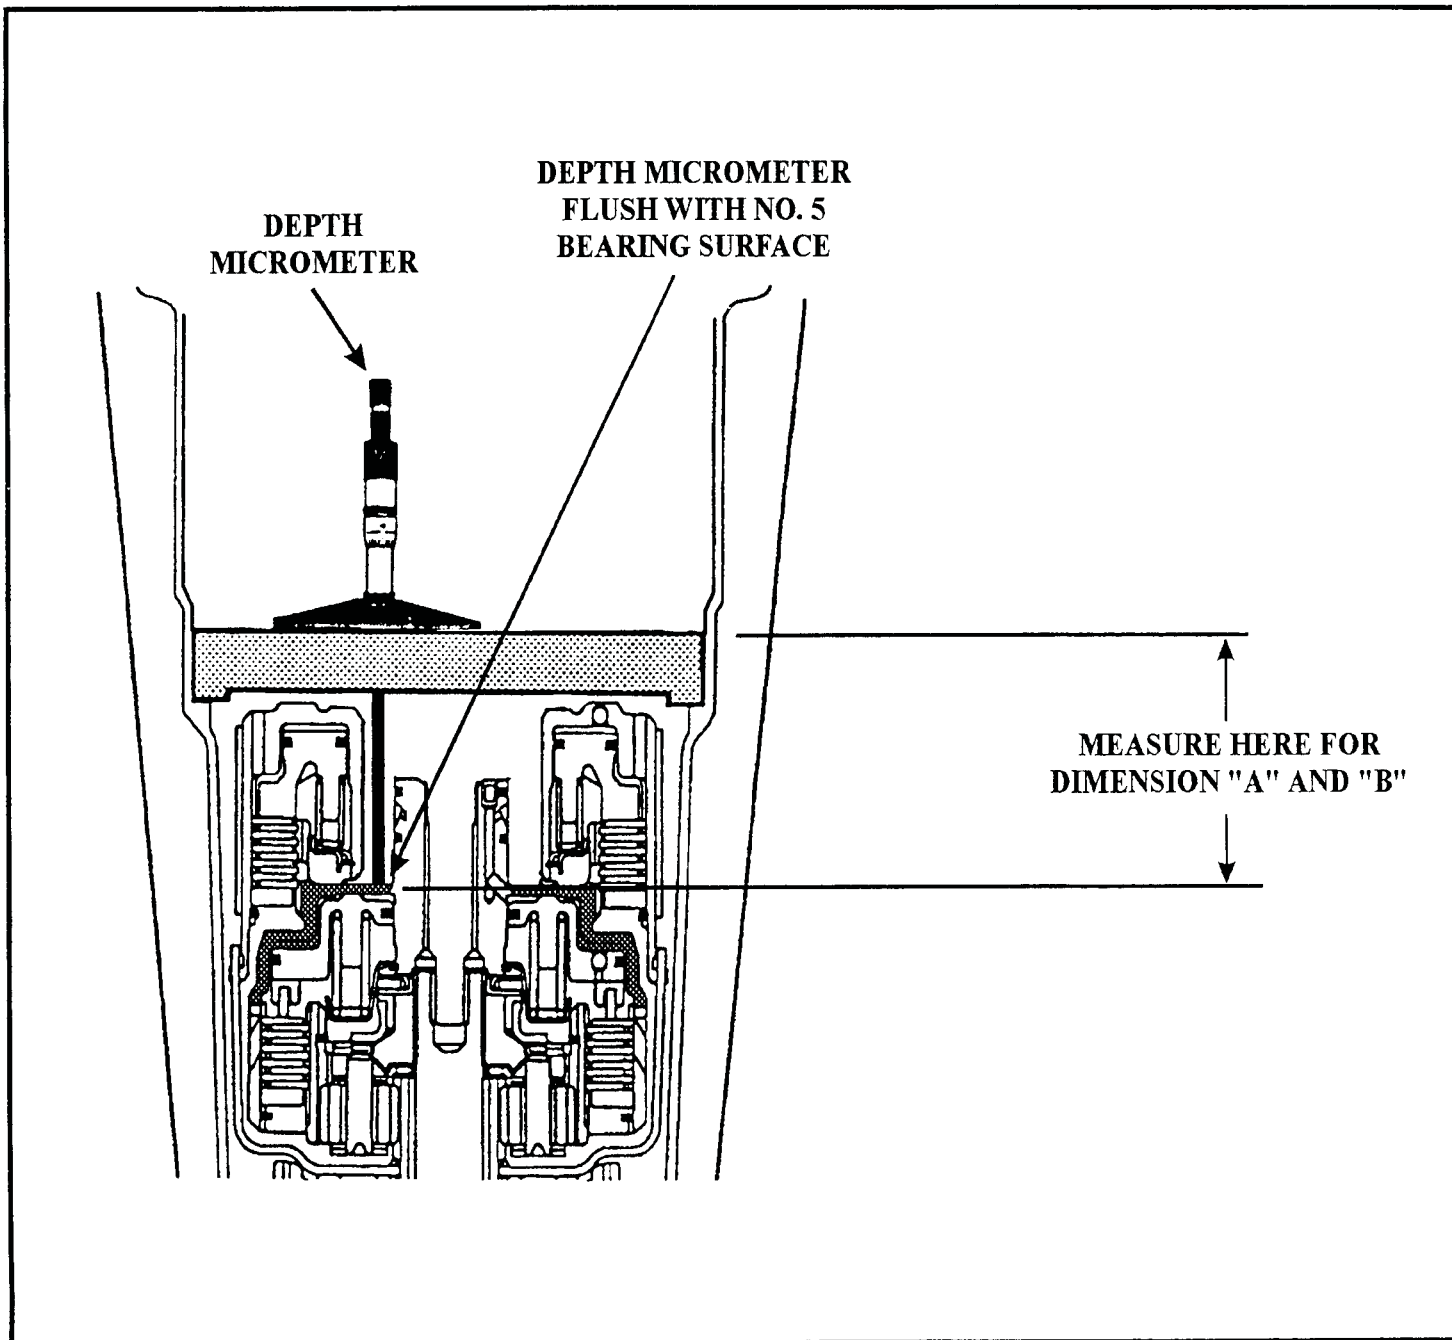

Figure 59
*The center support fixture used on previous models, will not work on "Snap" shell design models. To perform the rear endplay check on these models you **must** use a gauging bar (T93T-77003-AH), as shown in Figure 59, and using the following procedure:*
- (1) Place Gauging Bar (T93T-77003-AH) on case shoulder, as shown in Figure 59, and set the depth micrometer on top of gauging bar as shown in Figure 59.
- (2) Extend gauging bar probe until it contacts number 5 thrust bearing surface of the forward clutch drum, as shown in Figure 59. ***Number 5 (Selective) thrust bearing is removed for this check.***
- (3) Remove the depth micrometer and record this reading as Dimension "A".
- (4) Move the depth micrometer to the opposite side of the gauging bar (180 degrees). Extend gauging bar probe until it contacts number 5 thrust bearing surface of the forward clutch drum, as shown in Figure 59.
- (5) Remove the depth micrometer and record this reading as Dimension "B".
- (6) Add Dimension "A" and "B" together, and divide by 2, to determine an average reading. Subtract the thickness of Gauging Bar (T93T-77003-AH) which is 0.700" (17.78mm). ***This is Dimension "C".***
- (7) Using Dimension "C" in the chart provided below, choose the proper selective number 5 thrust bearing, which will now provide you with the proper end play of .004"-.024".